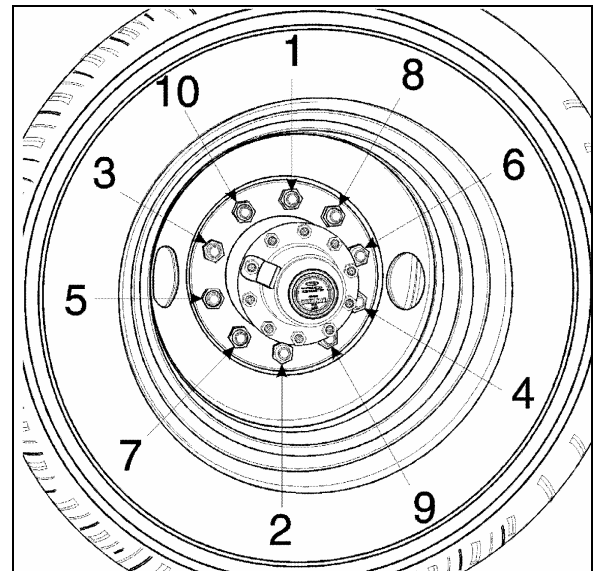
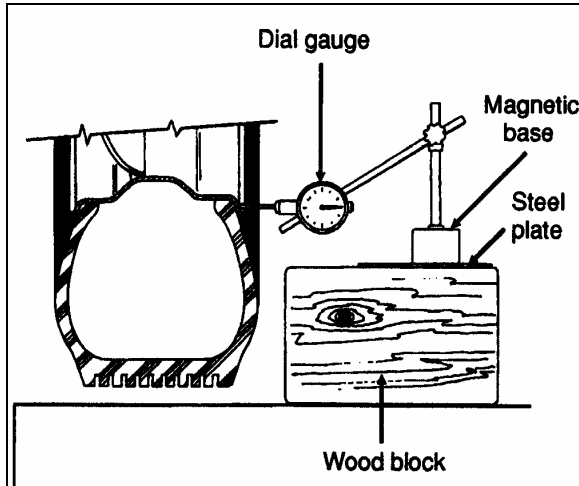

FIGURE 2: TIGHTENING SEQUENCE
FIGURE 3: DIAL GAUGE INSTALLATION 13008
It is also important that wheel stud nuts be tightened alternately on opposite sides of the wheel. Refer to Figure 2 for the suggested tightening sequence.
Tighten stud nuts progressively as shown in Figure 2. The final tightening should be done with a torque wrench. Tighten stud nuts to 450 - 500 lbf-ft (610 - 680 Nm) for aluminum wheels.
2. Screw in the hex stud nuts (refer to Figure 2 for sequence) so that wheel will position itself concentrically with hub. This is important, otherwise wheel may be eccentric with hub and will not run straight. In this initial step, slightly tighten the nuts to correctly position the wheel;
3. Tighten stud nuts progressively as shown in Figure 2. The final tightening should be done with a torque wrench. Tighten stud nuts to 450 - 500 lbf-ft (610 - 680 Nm) for aluminum wheel.
2. Screw in the inner cap nuts (Fig. 3), so that wheel will position itself concentrically with hub. Refer to Figure 2 for sequence;
3. Tighten inner cap nuts progressively according to sequence shown in Figure 2. Final tightening should be done with a torque wrench. Tighten inner cap nuts to 450 - 500 lbf-ft (610 - 680 Nm) for aluminum wheel.
Repeat for each of the 10 "hex stud nut - inner cap nut assemblies" according to the tightening sequence in Figure 2.
2. Check wheel lateral runout. Install a dial gauge as shown in Figure 3, then rotate the wheel by hand one full turn. As the wheel turns, note any variation on the dial gauge;